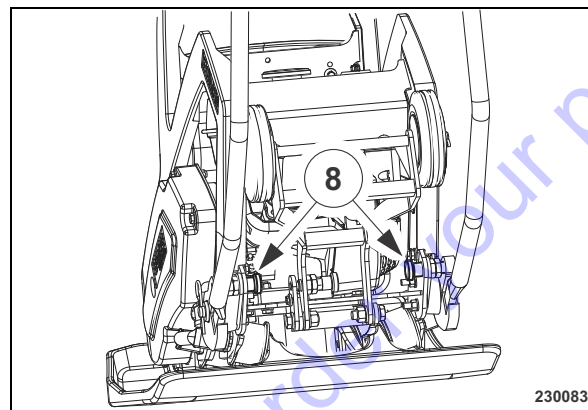

Fig. 35
- Lock the steering bow with the locking bolts (8) (Fig. 35).